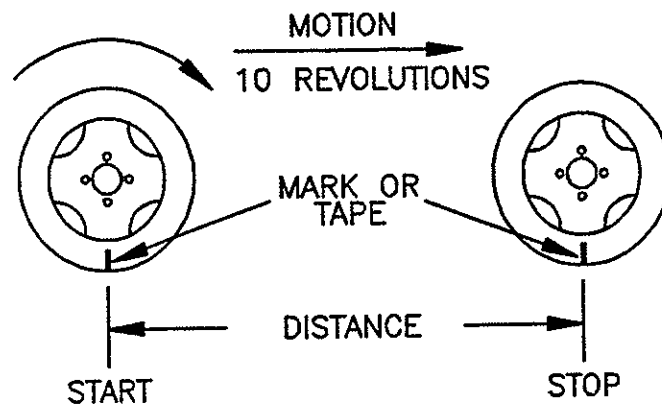

FIGURE 7
- 1) Place chalk mark or tape on vehicle tire, on which Speed Sensor is mounted, as shown in figure 7.